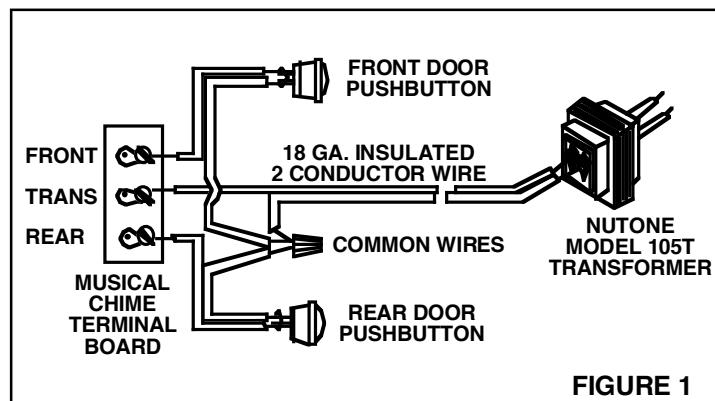

FIGURE 1
4. **Refer to Figure 1.** Connect the transformer and pushbutton wires to the Musical Chime's terminal board.